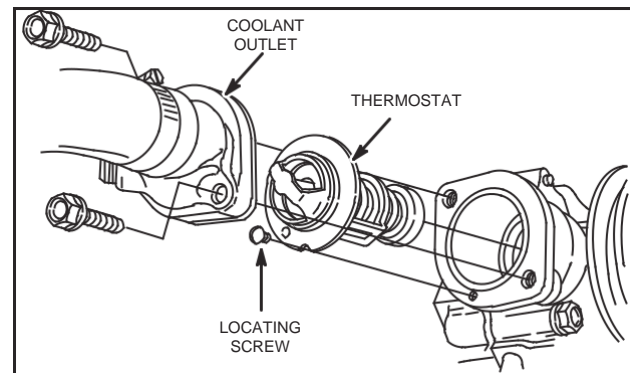

Fig. 3 – Removing Thermostat
3. Remove locating screw and thermostat, Fig. 3.